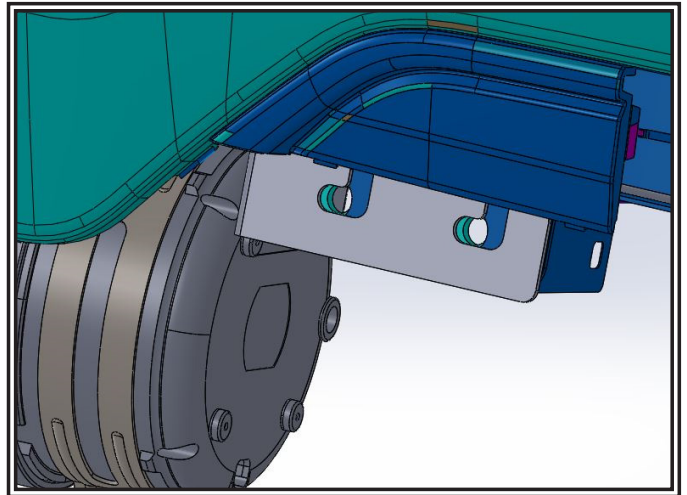

Figure 5
3. Loosen vehicle hardware and slide bracket into place. See Figure 5.